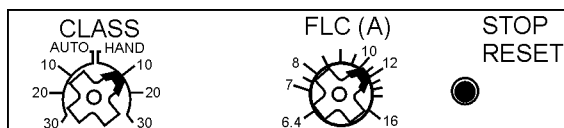

Figure 4. Electronic Overload Module
There are two dials on the **Electronic Overload Unit** (Figure 4) that require adjustment to meet the amperage requirement of the pump motor in use.
1. Set the **FLC (A)** dial pointer (Figure 4) to the correct amperage for the pump motor in use. Use Table 5, to determine the correct amperage setting. This setting will depend on the model of the pump.
1. Set the **CLASS** dial pointer (Figure 4) to position 10. This controls the reset function only. It does not affect the ability of the pump to run with or without float switches.